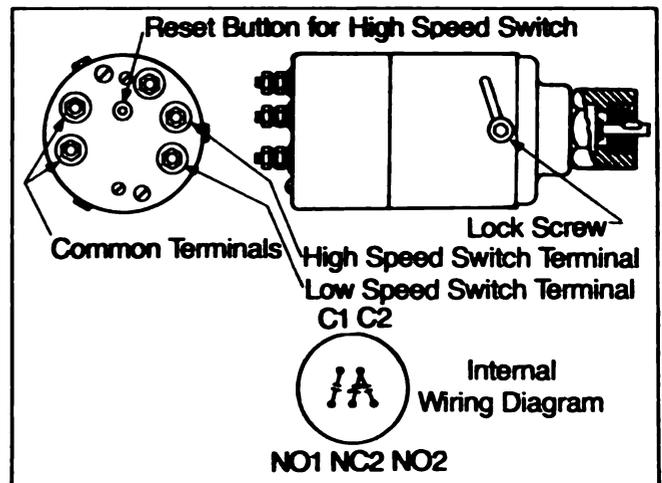

Fig. 1-22. (CGS27). Double speed switch
- a. Remove the round head dust cover screw marked 2 from the top of the switch. Fig. 1-22.